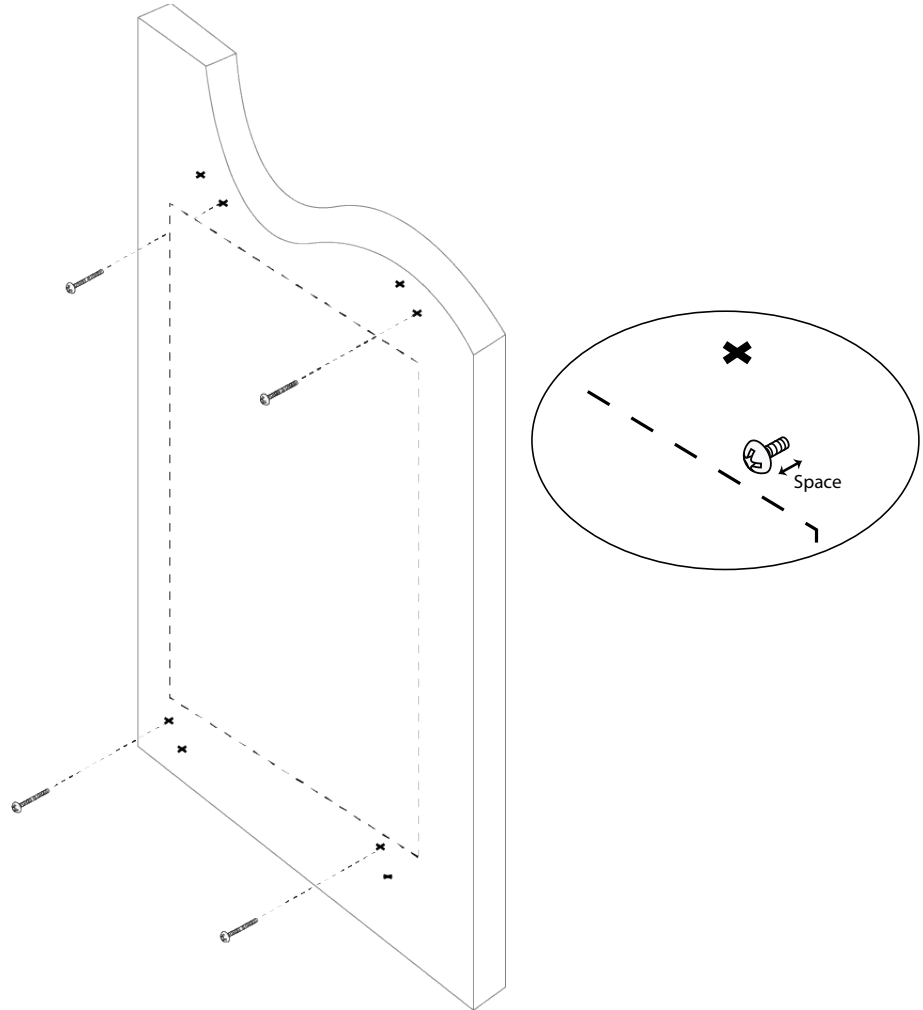

Figure 32. Screwing Four Screws on the Wall
8. Screw four screws to the pre-drilled holes that are closer to the switch, leaving space between the screw heads and the wall. See Figure 32 on page 65.